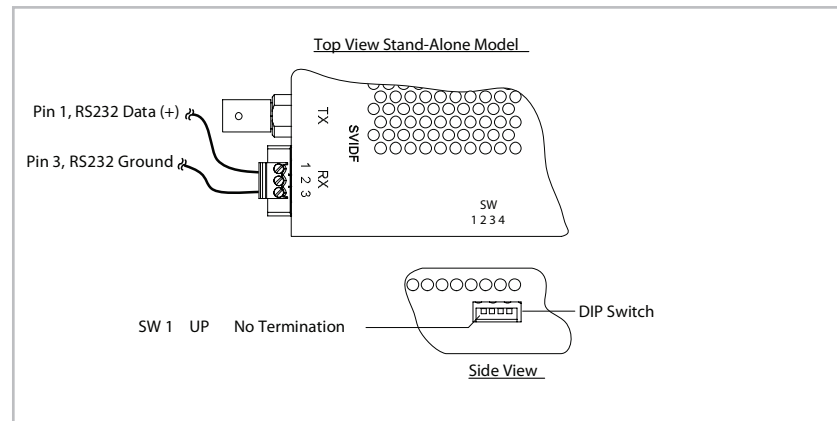

Figure 10: RS232 Video Receiver Data TB Wiring and DIP Switch Settings
The xVIDF201x-110 video receiver comes with an installed 3-position TB (*not wired*). Wire the TB for RS232 or 422/485 pan/tilt/zoom data in accordance with how the SVIDF20 transmitter communicates with the camera. Figures 10 and 11 show each wiring scenario.
1. Loosen screws 1 and 2 on the TB, shown in Figure 10.
3. Set the DIP switch “1” UP (*no termination*), as shown in Figure 10.